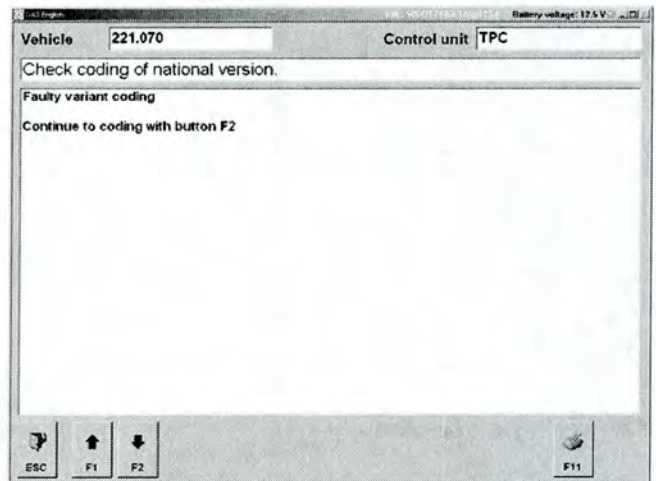

Figure 2
3. With faulty coding, the following screen (Figure 2) is shown. By pressing the F2 button, the coding is automatically corrected in the background.